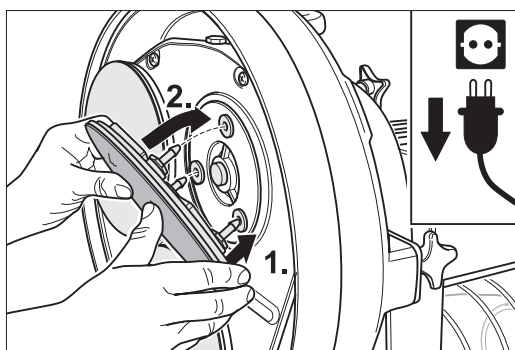

Fig. 8 Place one of the three bolts into the hole of one jig, fit the others respectively and press the gear on as far as it will go.
- 6 Mount the gear of your choice by placing one of the three locking bolts into rubber jig and then fitting the other two bolts into their respective jigs. Then press gear onto the bearing as far as it will go (Fig. 8).